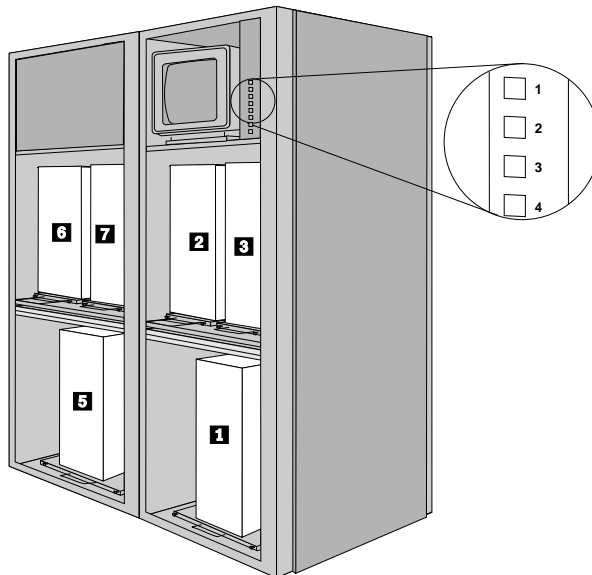

Figure 12. PC Server Expansion Rack position
1. The PC Server Expansion Rack must be installed on the left side of the primary PC Server Rack, as shown in Figure 12.